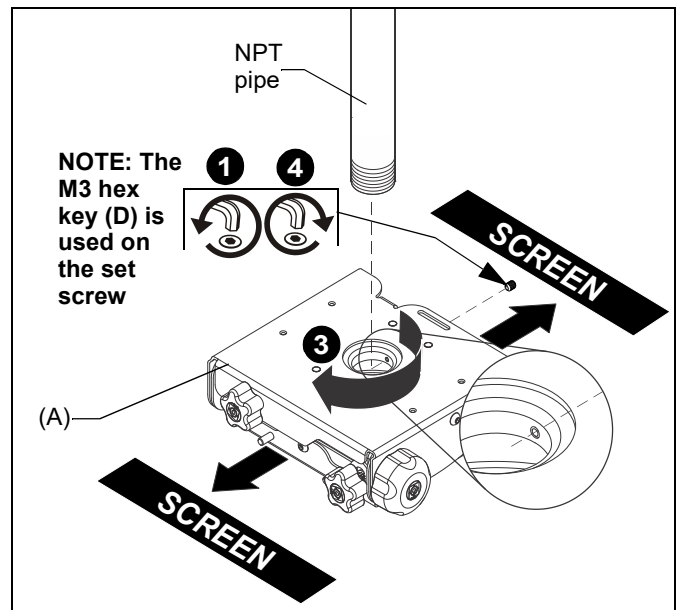

Figure 1
1. Loosen and remove the set screw which ships installed in the VCT mount (A). (See Figure 1)
- Thread the VCT mount (A) onto the existing 1-1/2" NPT pipe until tight with a minimum of four threads engaged. (See Figure 1)
NOTE: Ensure that side of VCT mount with two knobs is located parallel to, or opposite of, the screen. (See Figure 1)
- Tighten the set screw into the VCT mount threaded collar to prevent movement of the VCT. (See Figure 1)